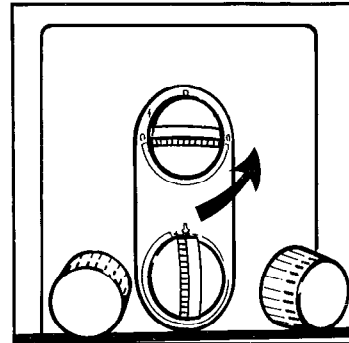

Fig. 2
- When the pilot is alight, wait 10 seconds then turn the gas control knob anti-clockwise slowly to the full gas position  (fig. 2).
Light the pilot as previously described and turn the gas control knob anticlockwise to the position shown  (fig. 2).